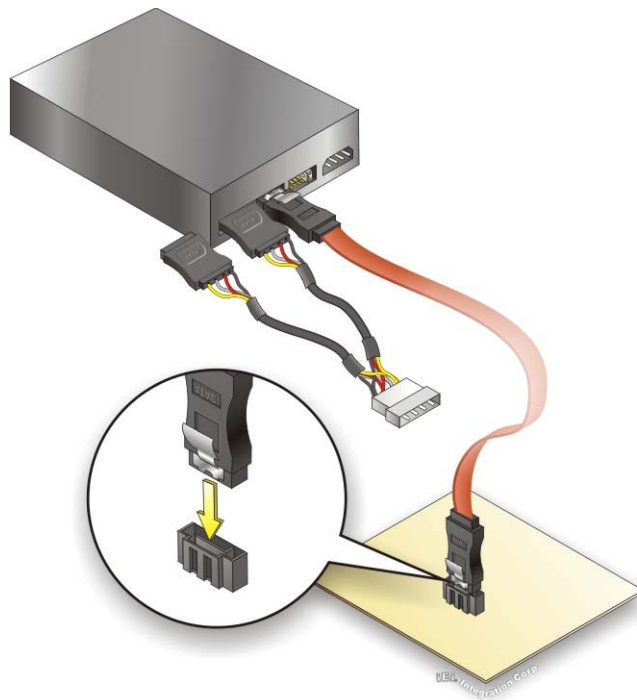

Figure 4-13: SATA Power Drive Connection
Step 3: Connect the cable to the SATA disk. Connect the connector on the other end of the cable to the connector at the back of the SATA drive. See Figure 4-13.
Step 4: Connect the SATA power cable. Connect the SATA power connector to the back of the SATA drive. See Figure 4-13.